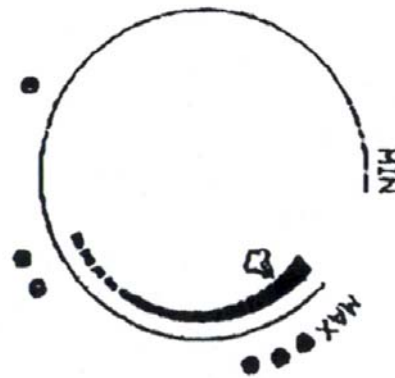

Fig. 4
- Set the appropriate ironing temperature indicated in the ironing instructions or in the fabric table by means of the temperature dial (1). (Fig. 4)